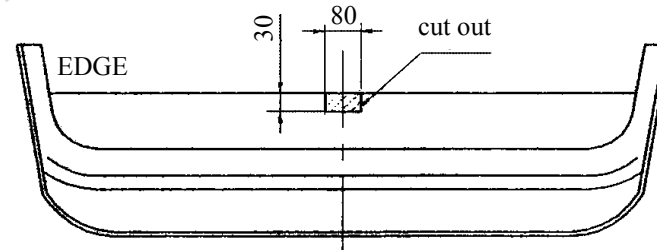

Fig. 2
2. To right chassis member fix bracket (pos. 5) using bolts M10x1,25x35mm (pos. 8) through holes (pos. A - loosely).
3. To left chassis member fix bracket (pos. 4) using bolts M10x1,25x35mm (pos. 8) through four holes (loosely), and through hole (pos. B) bolt M10x30mm (pos. 9). Use handle with nut M10 (pos. 6).
4. Between brackets (pos. 4 and 5) slip main bar of the towbar (pos. 1) and fix using bolts M12x35mm (pos. 7).
- rear muffler handle to element (pos. 5) through holes (pos. C).
- bumper, after his cut (see fig. 2.)
7. Fix body of the automat and place tow-ball according to supplied instruction. Note! Remember to place socket plate (pos. 3) as shown on the drawing 1.